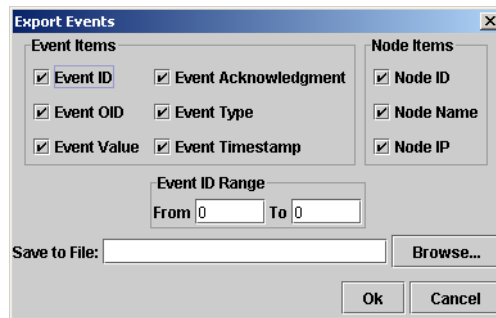

Figure 18. Export Events dialog
- **Export Events**—This menu option (see figure 18) is used to export various event and node items (see page 27 for details)
The *Export Events* dialog (see figure 18) is used to export a record of event and node items that have occurred on the network. The exported file, data is saved to a comma-separated-values (CSV) format file, so you can reuse the event data in a database or spreadsheet program. As shown in figure 18, the exported data can be customized by selecting just the items of interest. The following sections describe the *Export Events* dialog options.